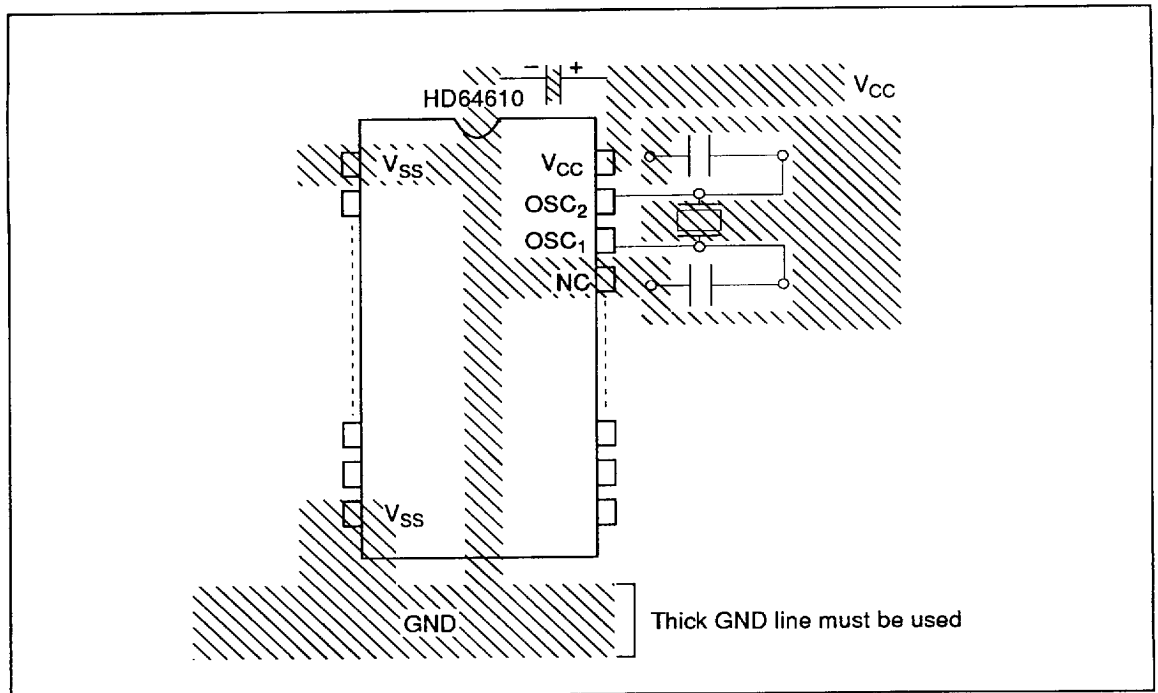

Figure 9 Board Design Example
6. An example of board design is shown in figure 9.